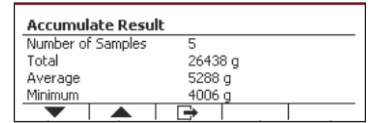

Figure 32
- To view accumulation results, press the softkey corresponding to the Σ icon. The Accumulate Result screen is displayed. (See Figure 32)